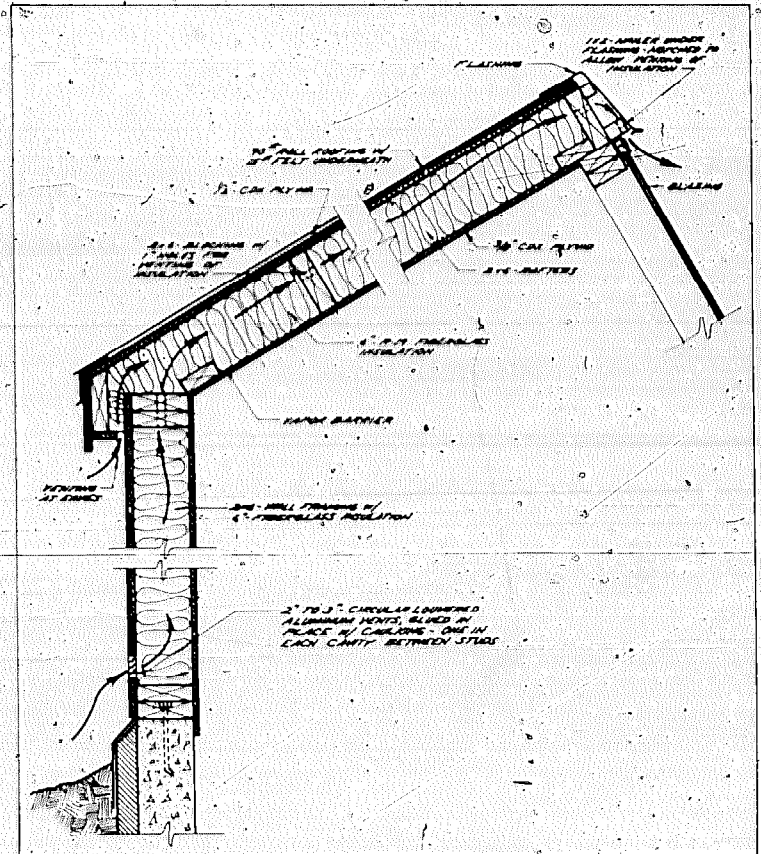

FIGURE 6.9 Venting of insulation in roof and solid walls
- Vent the insulation in the walls and roofs as in Figure 6.9, so that any moisture which does get into the insulation can escape. (For very small solid roof or wall areas on some attached greenhouses, venting may not be worth the effort. Venting is more critical on larger roofs and walls.)